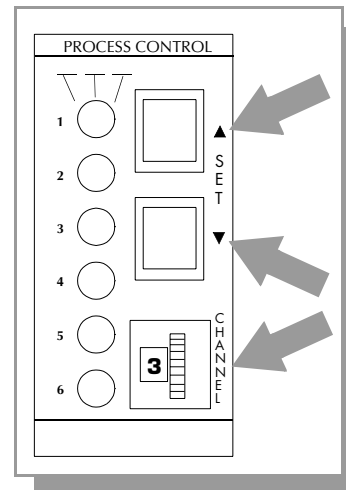

Figure 4-24 Process Control Module Showing Setpoint Set buttons and Channel Select Thumbwheel.
2. Press and hold the SET button for the direction you wish the setpoint to change; ▲ to raise the setpoint; ▼ to lower it. See Figure 4-24.